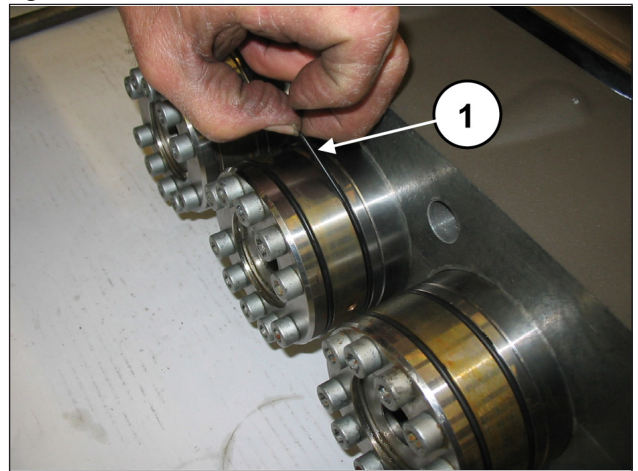
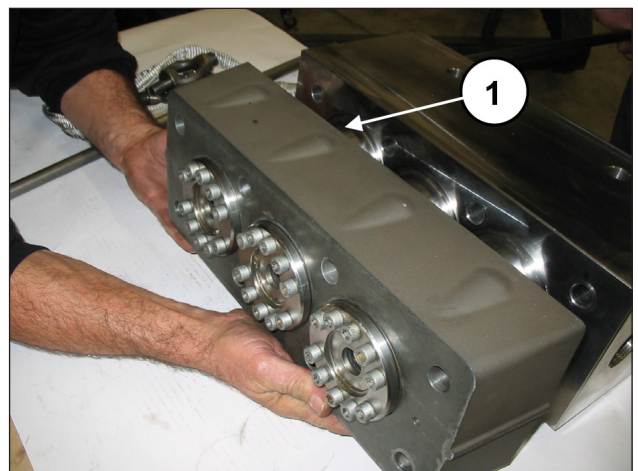

Fig. 110
Fig. 111
Remove the O-rings of the gasket supports (pos. ①, Fig. 110) and remove the liner spacer from the liner units (pos. ①, Fig. 111).